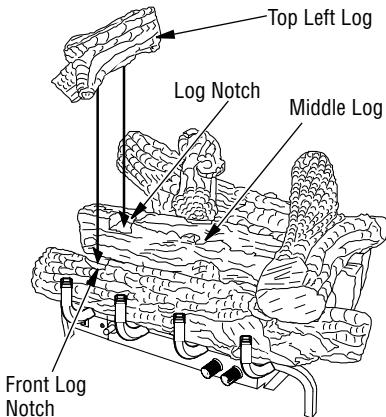

Figure 29 - Installing Top Left Log
6. Place the top left log onto the middle and front logs as shown in **Figure 29**. Make sure to match up the shape on the bottom of the top left log with the notches in the middle and front logs.